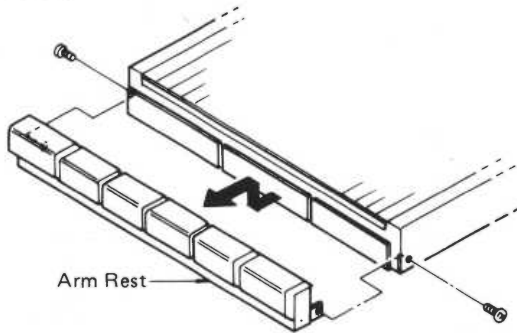

Fig. 1
- Remove two screws of the arm rest first (Fig. 1).